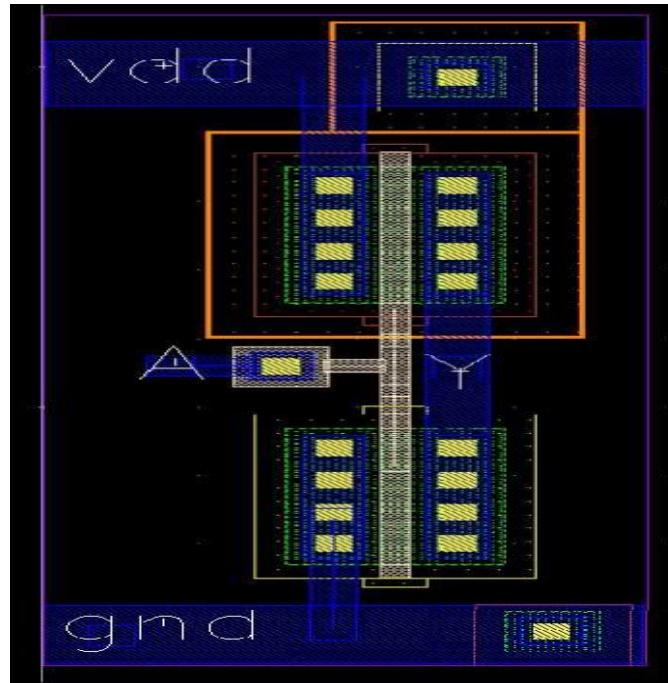

Figure 1.22: Layout
2. Rearrange the components with in PR-Boundary as shown in the figure1.22
1. Save your design by selecting File — Save or click to save the layout, and layout appears as shown in the figure1.22